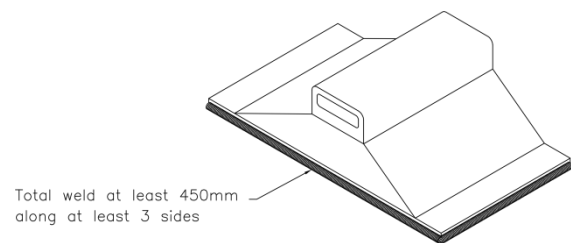

Figure 21: Minimum fifth wheel pedestal welding
- If welded, use at least 450 mm (total) of 10 mm fillet weld per fifth wheel pedestal along at least three sides (see Figure 21).